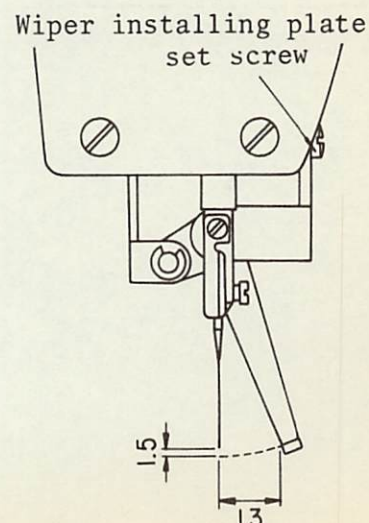

Fig.55
- \* The standard position of the wiper should be for the wiper to be about 13mm(33/64") away from the needle at the stop motion time and when it passes the point of the needle, the clearance should be 1.5mm(1/16"). (Fig.55)